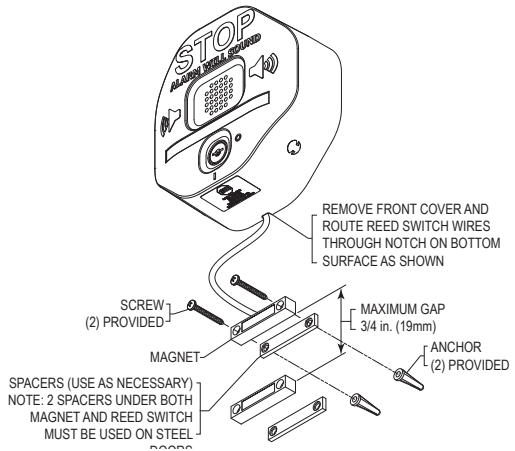

Figure 3
3. Mount main unit on or next to the door using hardware provided. Reed switch may be located in one of four internal positions or route the reed switch through the slot in the bottom of the cover as shown in Fig. 3.